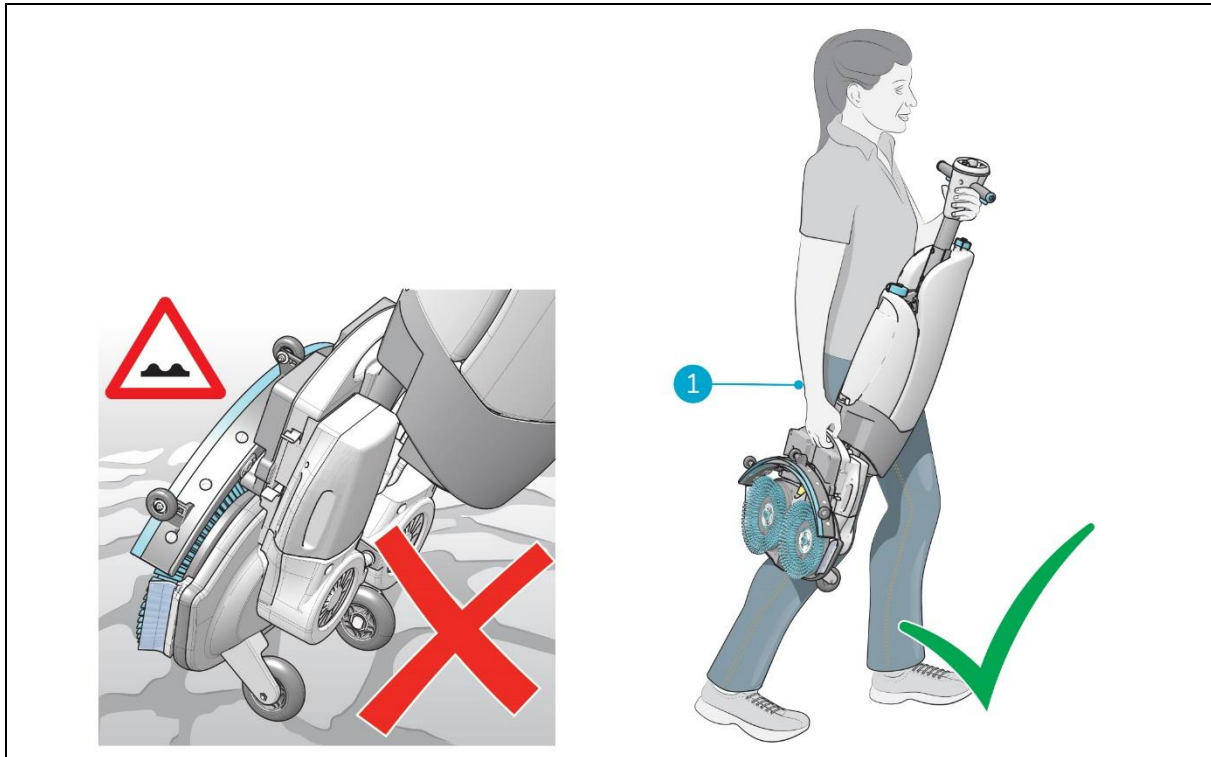

Figure 5
2. Carry the i-mop XL basic with one hand while holding the handle (Figure 5, pos 1) with your other hand.